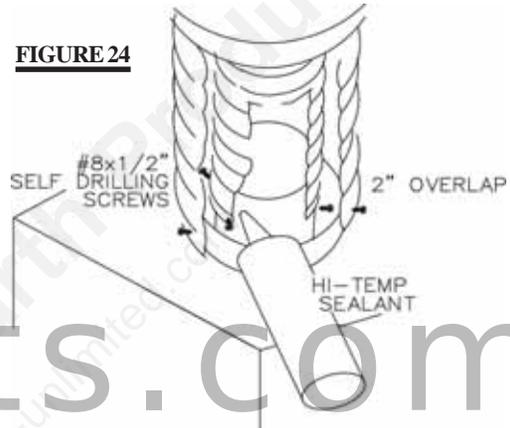

FIGURE 24
1. Install the 4 inch diameter aluminium flexible liner to the fireplace. Secure with 3 screws and flat washers. Seal the joint and screw holes using the high temperature sealant provided. FIGURE 24.